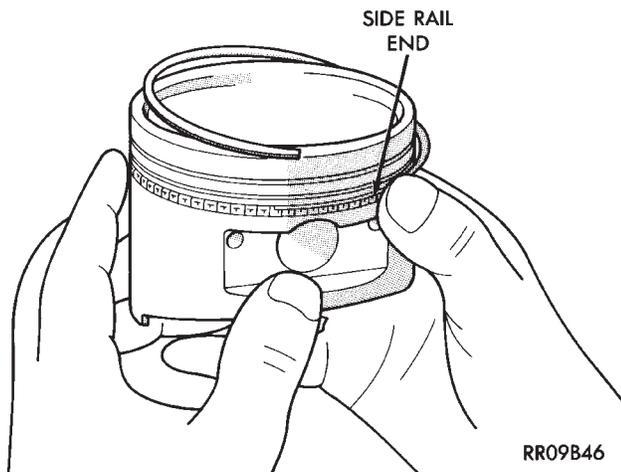

Fig. 11 Installing Side Rail
(2) Install the side rail by placing one end between the piston ring groove and the expander. Hold end firmly and press down the portion to be installed until side rail is in position. **Do Not use a piston ring expander** (Fig. 11).